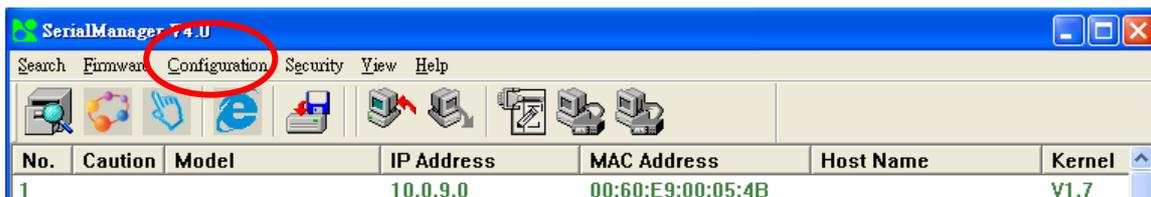
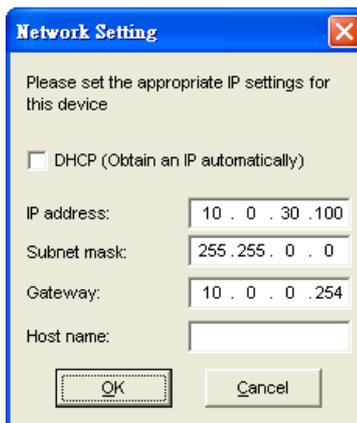

Fig. 6. Configuring the static IP with SerialManager
Fig. 7. Static IP dialog window
Use **SerialManager** on product CD to configure the SE5002. First click "**Configuration**" (Fig. 6) then assign a static IP (Fig. 7).
- ➔ Execute SerialManager(Fig. 6)
- ➔ Click "**Config**" to pop-up the static IP Dialog Window (Fig. 7)